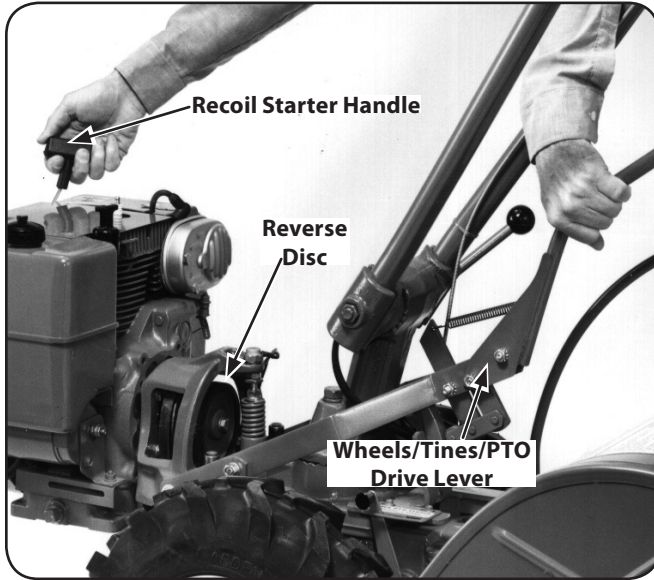

Figure 6-21
- Use your left hand to hold the Wheels/Tines/PTO Drive Lever up in REVERSE, while briefly pulling out the engine recoil starter. The reverse disc should turn the lower pulley. See Figure 6-21. If not, or it requires a lot of pressure to hold the lever up in REVERSE, then the reverse adjustment bolt must be adjusted downward. When correctly adjusted, the Wheels/Tines/PTO Drive Lever should pop out of reverse when the lever is released, but not require exceptional effort to hold it up in the reverse position.